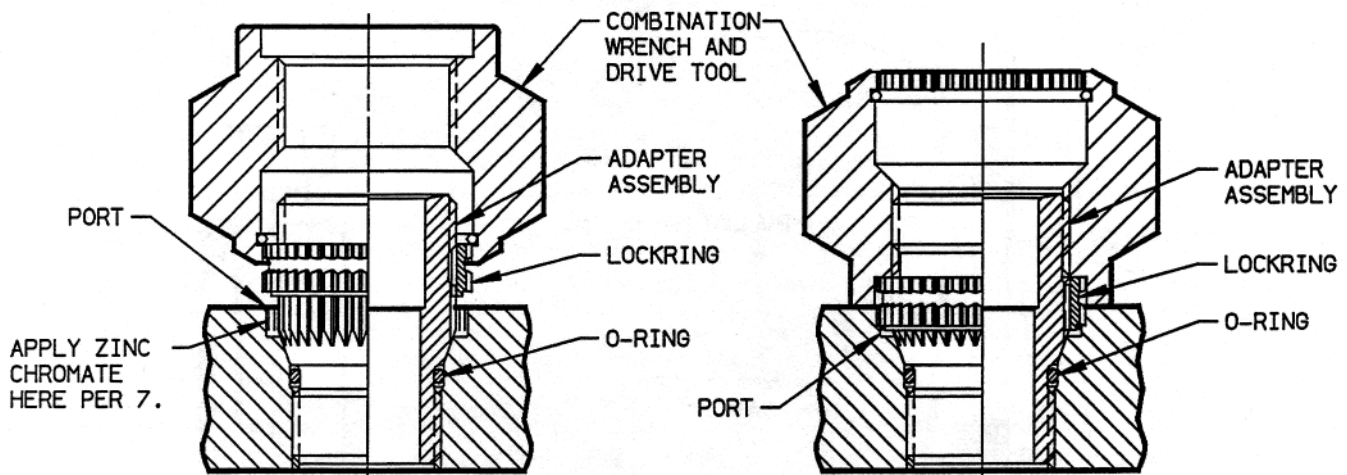

FIGURE 2
6. Using the applicable combination wrench and drive tool on page 8, engage the serrations of the tool with the external serrations of the lockring per Figure 2. Place a torque wrench over the hex of the wrench and apply a torque equal to the minimum value specified in Table IX, page 10. Note the relationship of the lockring serrations with respect to the prebroached port serrations. If they are aligned, proceed to 7. If not, continue to slowly torque the adapter toward the maximum value allowed in TABLE IX until both serrations are aligned. This procedure normally results in the adapter being rotated 3-8. DO NOT EXCEED THE MAXIMUM TORQUE VALUES.